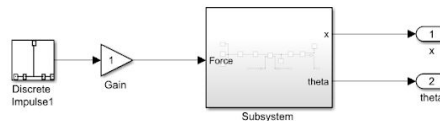

Figure 9: Discrete impulse connection to the system.
g) Next we will add a discrete impulse as an external disturbance force. Search for Discrete Impulse in the Library and connect it to a gain. Replace the force input with the impulse system (Figure 9). In the next section, you will adjust the gain to disturb θ by ~ 0.11 radians (~ 6.3 degrees). At this stage, you can simulate the system and see if the visualization looks right. The system is unstable as there is no control (Figure 9).